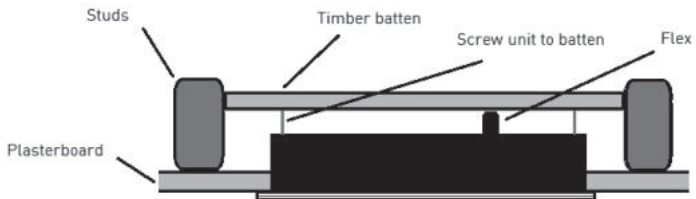

Fig. 3
- Install a timber stud or batten at a depth of 60mm to allow room for the flex (see Fig. 3); or at a depth of 45mm if a cut-out in the batten is made for the flex